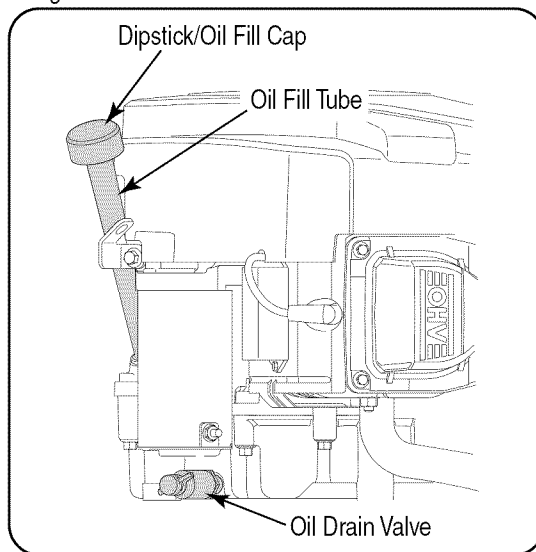

Figure 15
- Unscrew the dipstick/fill cap from the fill tube on the engine. Remove the dipstick and wipe the oil off. Reinsert the dipstick into the tube and rest the cap on the tube. Do not screw the cap onto the tube. See Figure 15.
- Locate the oil drain valve on the right side of the engine, beneath the starter motor. Refer to Figure 15.